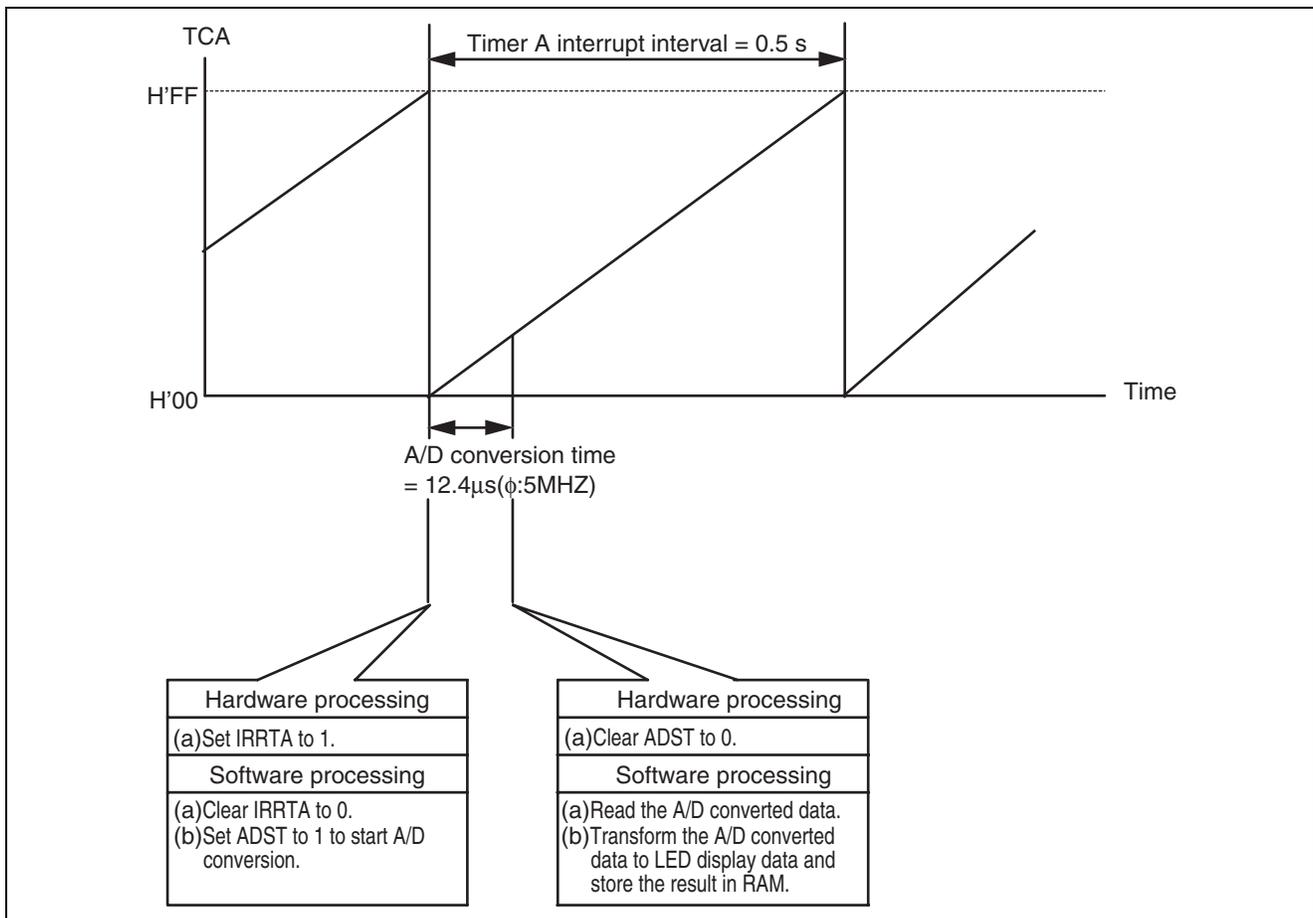

Figure 7 Description of A/D Conversion of the AN0 Pin Signal when Timer A is Used
- Figure 7 shows the description of A/D conversion of the AN0 pin signal when timer A is used. In this sample task, the completion of A/D conversion is determined by the tmra interrupt routine instead of an A/D conversion interrupt, as shown in Figure 7.